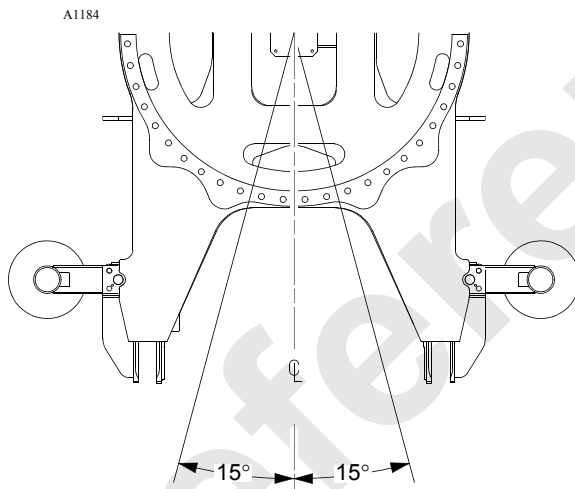

FIGURE 4-20
- Do not swing 15° either side of center (see Figure 4-20).